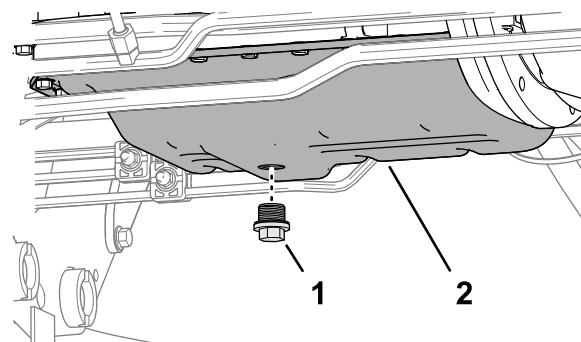

Figure 125
4. Remove the drain plug (Figure 125) and let the oil drain into the pan.